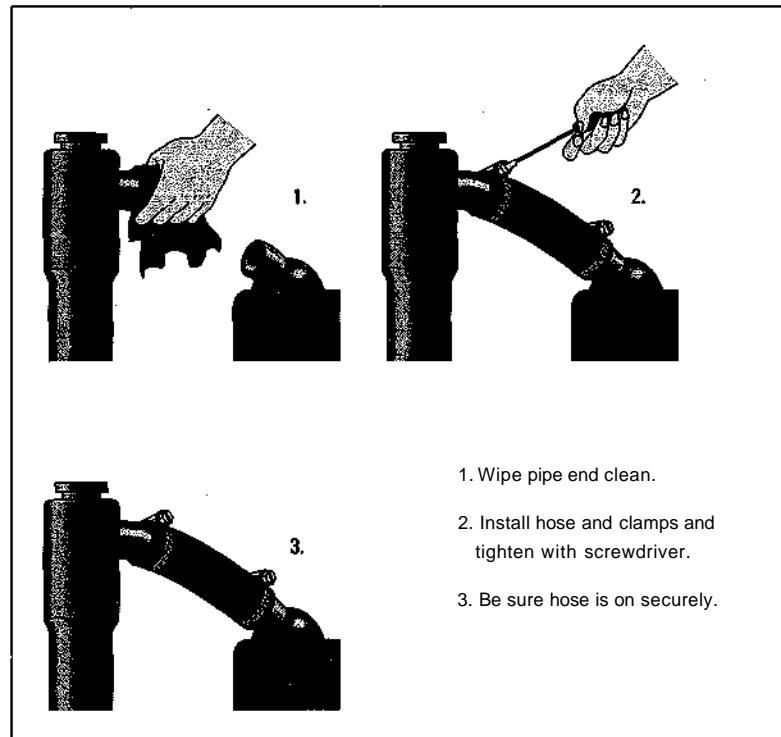

Figure 14-9:
The basic process of changing a hose is quite simple (see Figure 14-9), but there are differences depending on the type of hose you're replacing:
5. Clean the fittings that the new hose will attach to and install new clamps over the hose (refer to Figure 14-9).